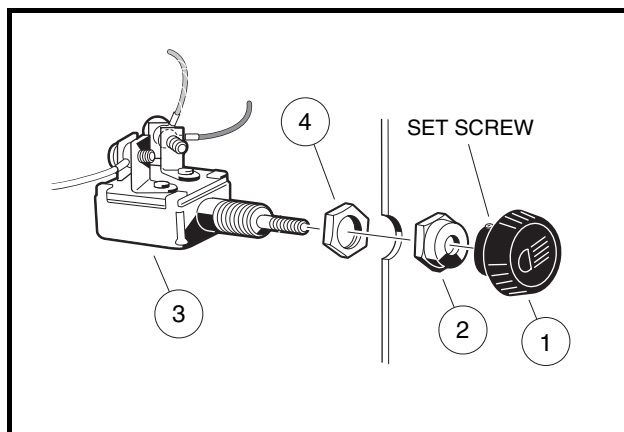

Figure 12-20 Light Switch
2. Loosen the set screw locking the light switch knob (1) to the shaft (**Figure 12-20, Page 12-21**).
5. Remove the outer nut (2) from the switch (**Figure 12-20, Page 12-21**).
6. Remove the light switch (3) from the center dash.
2. Thread the check nut (4) onto the switch until an equal number of threads show on both sides. Insert the switch through the center dash and install the nut on the outside of the dash. Tighten the nut to 14 in-lb (1.6 N·m) (**Figure 12-20, Page 12-21**).